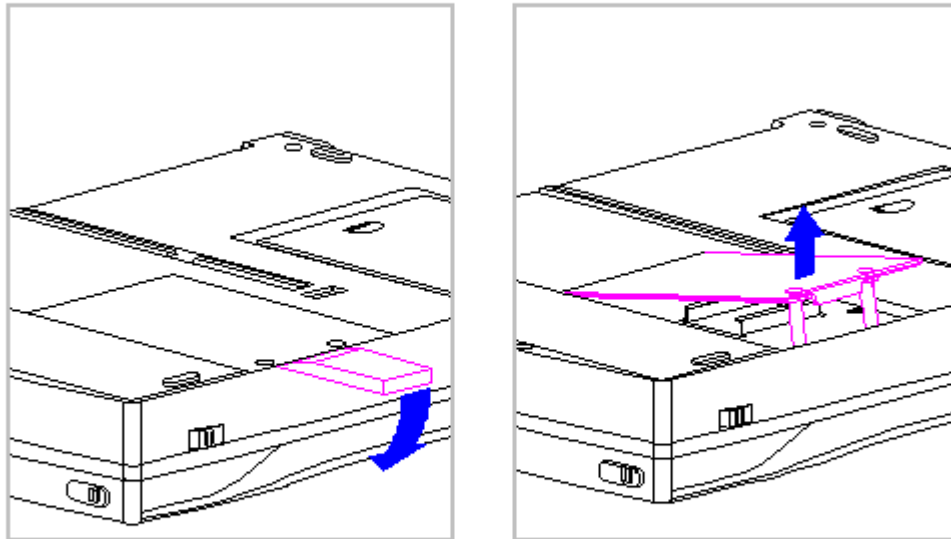

Figure 3-18. Removing the Hard Drive Compartment Cover (All Models)
4. Use a case utility tool to remove the hard drive compartment cover (Figure 3-18).